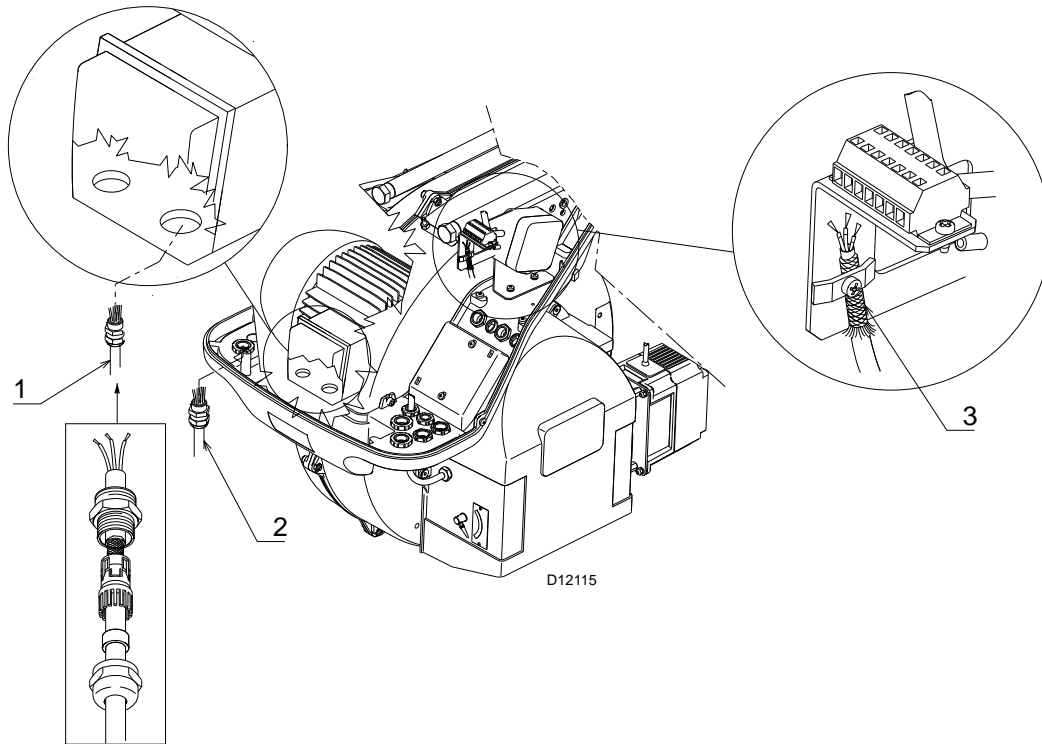

Fig. 26
It is important to shield the motor cable 1) as indicated in Fig. 26.
Key (Fig. 26)
The connection from the inverter to the REC 37.400A2, electronic cam, must be performed as indicated in 3)(Fig. 26).
- Bleed the air from the piping of the gas train, connecting a plastic tube to the pressure test point 1 (Fig. 26) of the minimum gas pressure switch. Take the vent tube outside the building so you can notice the smell of gas.